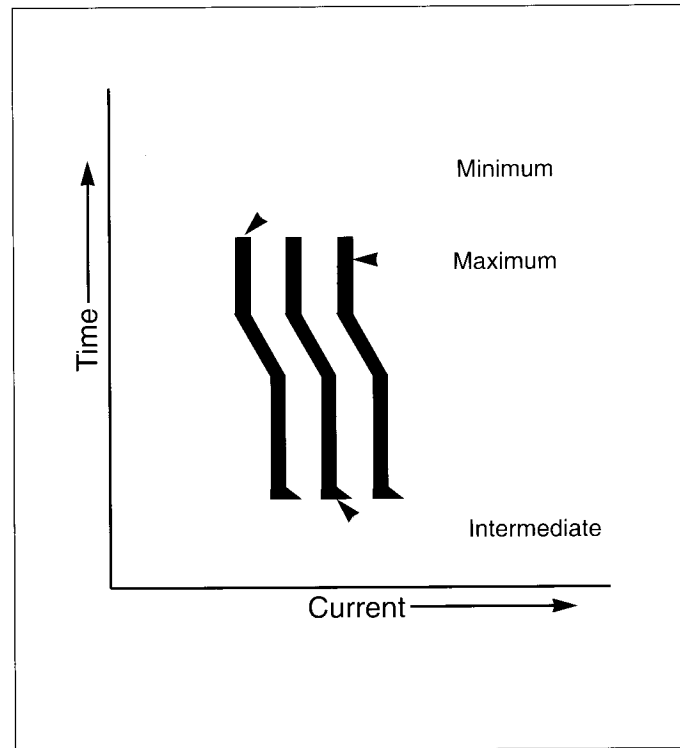

Figure 3-3 Typical Trip Curve Horizontal Movement
a) Adjustability: The adjustability of the trip unit permits movement of its characteristic curve or parts of the curve. This movement can be done in both a horizontal and vertical direction on the time current grid. The actual shape of the curve can be changed along with the curve movement, because of the Flat to I²T selectable slope capabilities. This adjustability permits distinct curves to be established that will better match the electrical protection to the application need (Figures 3-3 through 3-12).